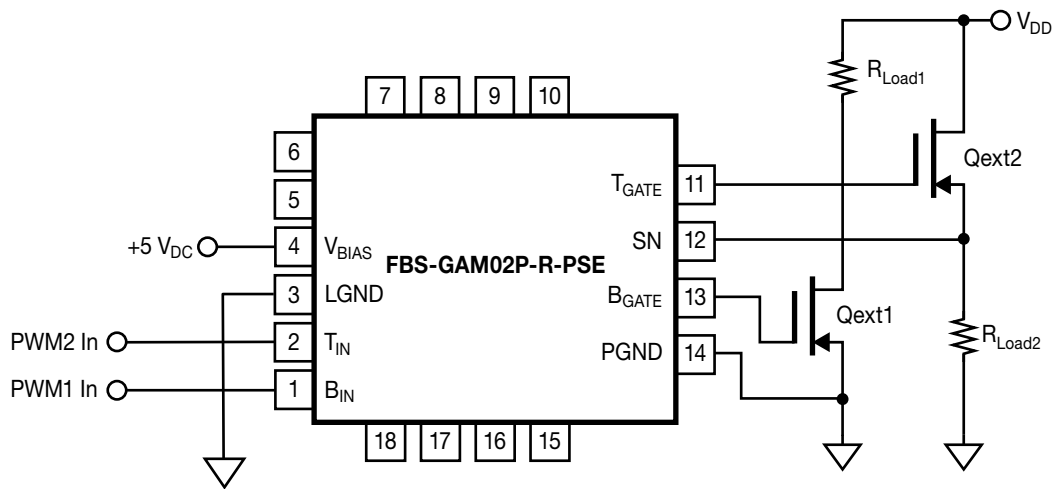

Figure 10. Independent High- and Low-Side Power Switches
The FBS-GAM02P-R-PSE incorporates a Power Good (PG) sensing circuit that disables both internal (low- and high-side) gate drivers when the +5 V gate drive bias potential (V_{BIAS}) falls below the under-voltage threshold, UVLO-, or rises above the V_{BIAS} over-voltage threshold level, OVLO+ (please refer to Figure 5 for the proper operational nomenclature and functionality versus the state of the V_{BIAS} power supply). During the time when the V_{BIAS} potential is outside of the pre-set threshold(s), the PG output (Pin 5) pin is logic low ("0"). Alternatively, when the V_{BIAS} potential is within the pre-set thresholds the PG pin is logic high ("1"). The logic condition of the PG pin may be sensed by an FPGA or Microcontroller/DSP in-order to determine when the power switches in the FBS-GAM02P-R-PSE may be driven with pulse-width modulated (PWM) input signal(s) at the B_{IN} and T_{IN} logic inputs. If either the under-voltage and over-voltage protection features are not required or desired, then these may be disabled by connecting the *SD (Pin 6) pin to V_{BIAS} (pin 4) and/or the SD pin (Pin 7) to LGND (pin 3), as shown in Figure 10.